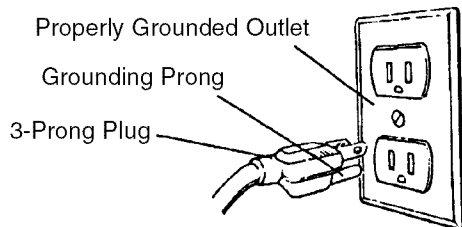

Figure 5 - 3-Prong Receptacle
- This tool is equipped with an approved cord rated at 150V and a 3-prong grounding type plug (see Figure 5) for your protection against shock hazards.
- Grounding plug should be plugged directly into a properly installed and grounded 3-prong grounding-type receptacle, as shown (see Figure 5).